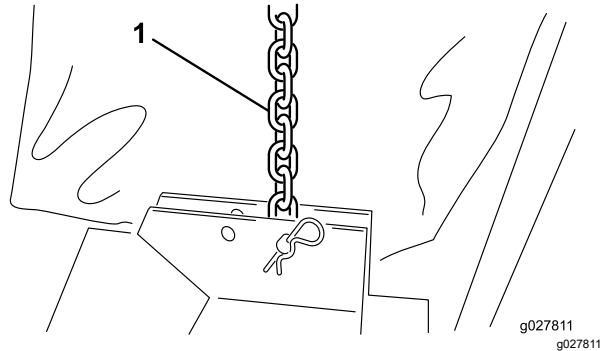

Figure 3
3. Connect each lift chain to the corresponding deck bracket with a clevis pin and hairpin cotter (Figure 3).